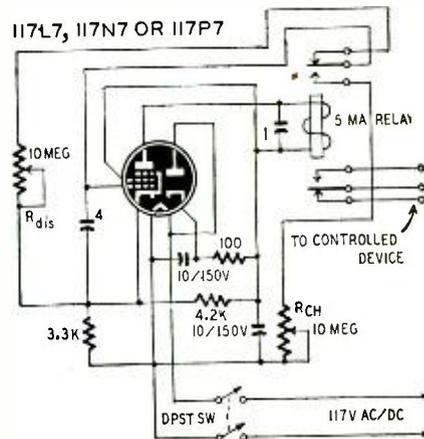

Fig. 3—Reciprocator opens and closes relay.
Fig. 3 shows the same type of time-delay circuit used as an interrupter or reciprocator.
**MATERIALS FOR RECIPROCIATOR—Fig. 3**